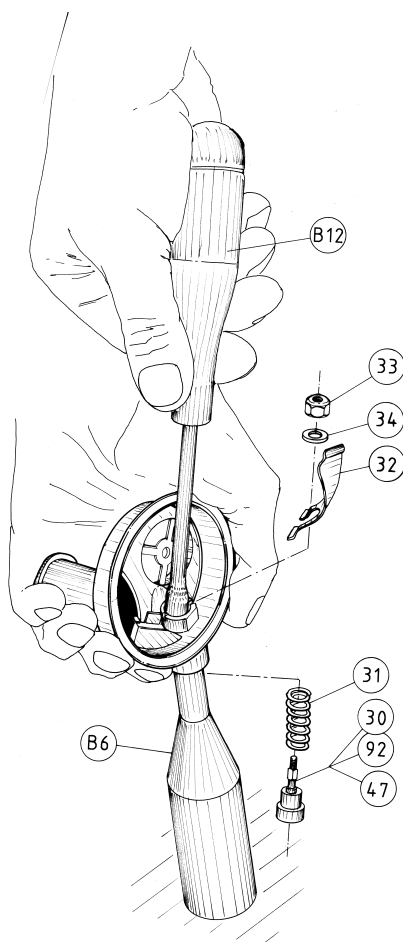

FIG. 2
6. Correctly position the demand lever in the groove of the second stage case (32), fit the washer (34) on the poppet stem and lock down the adjusting nut (33) by a few turns, using the special wrench (B-12 or B-20). (Fig. 2)